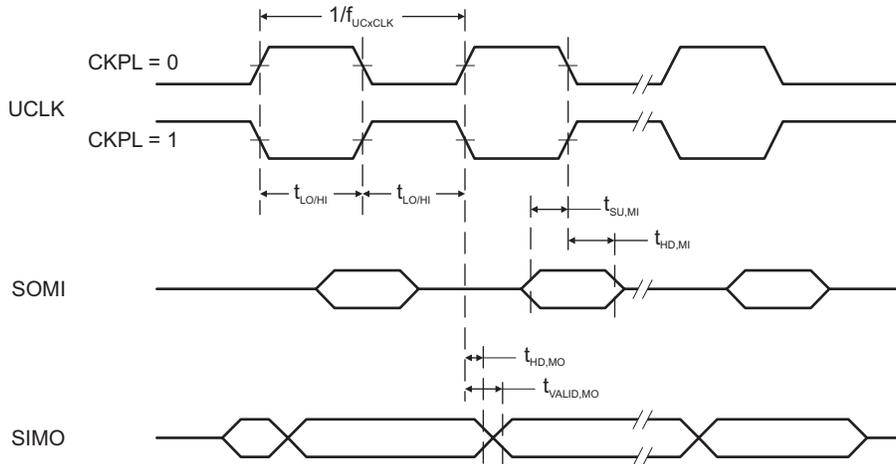
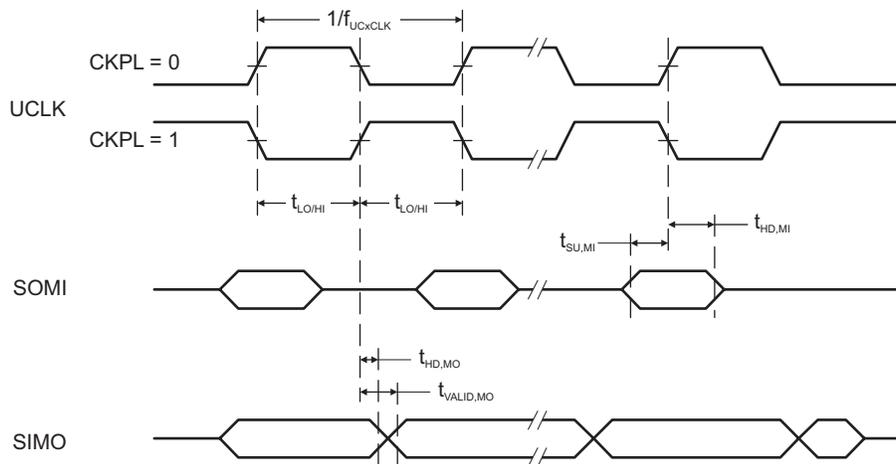

Figure 5-7. SPI Master Mode, CKPH = 0
Figure 5-8. SPI Master Mode, CKPH = 1
(see Figure 5-7 and Figure 5-8)
(2) Specifies the time to drive the next valid data to the SIMO output after the output changing UCLK clock edge. See the timing diagrams in Figure 5-7 and Figure 5-8.
(3) Specifies how long data on the SIMO output is valid after the output changing UCLK clock edge. Negative values indicate that the data on the SIMO output can become invalid before the output changing clock edge observed on UCLK. See the timing diagrams in Figure 5-7 and Figure 5-8.